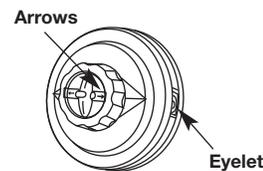

Fig. 33
1. Align the arrows on the bump knob with the spool cover eyelets, if they are not already (Fig. 33).